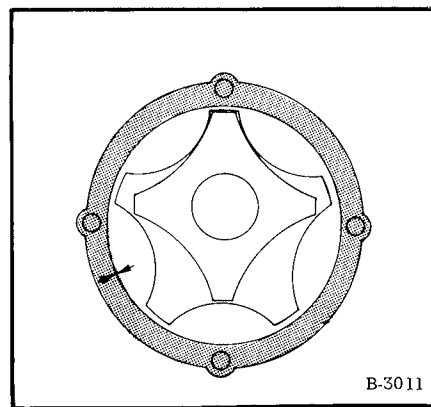

Fig. 8-58 Check Oil Pump & Rotor Clearance
- (4) Measure the clearance between the rotor shaft and pump body. Replace the parts if the clearance is over the limit for servicing (Fig. 8-58).